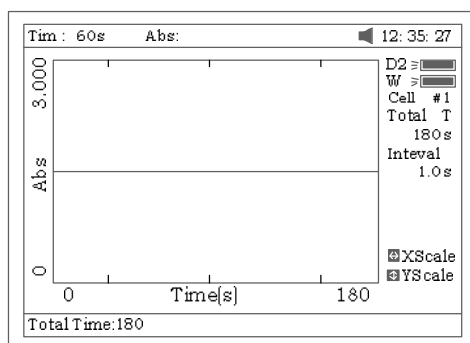

Fig 54
1. Press **[F1]** to set “Total Time”, “Delay Time”, “Time interval”, and input the value by pressing the numeric keypad (Fig 54).